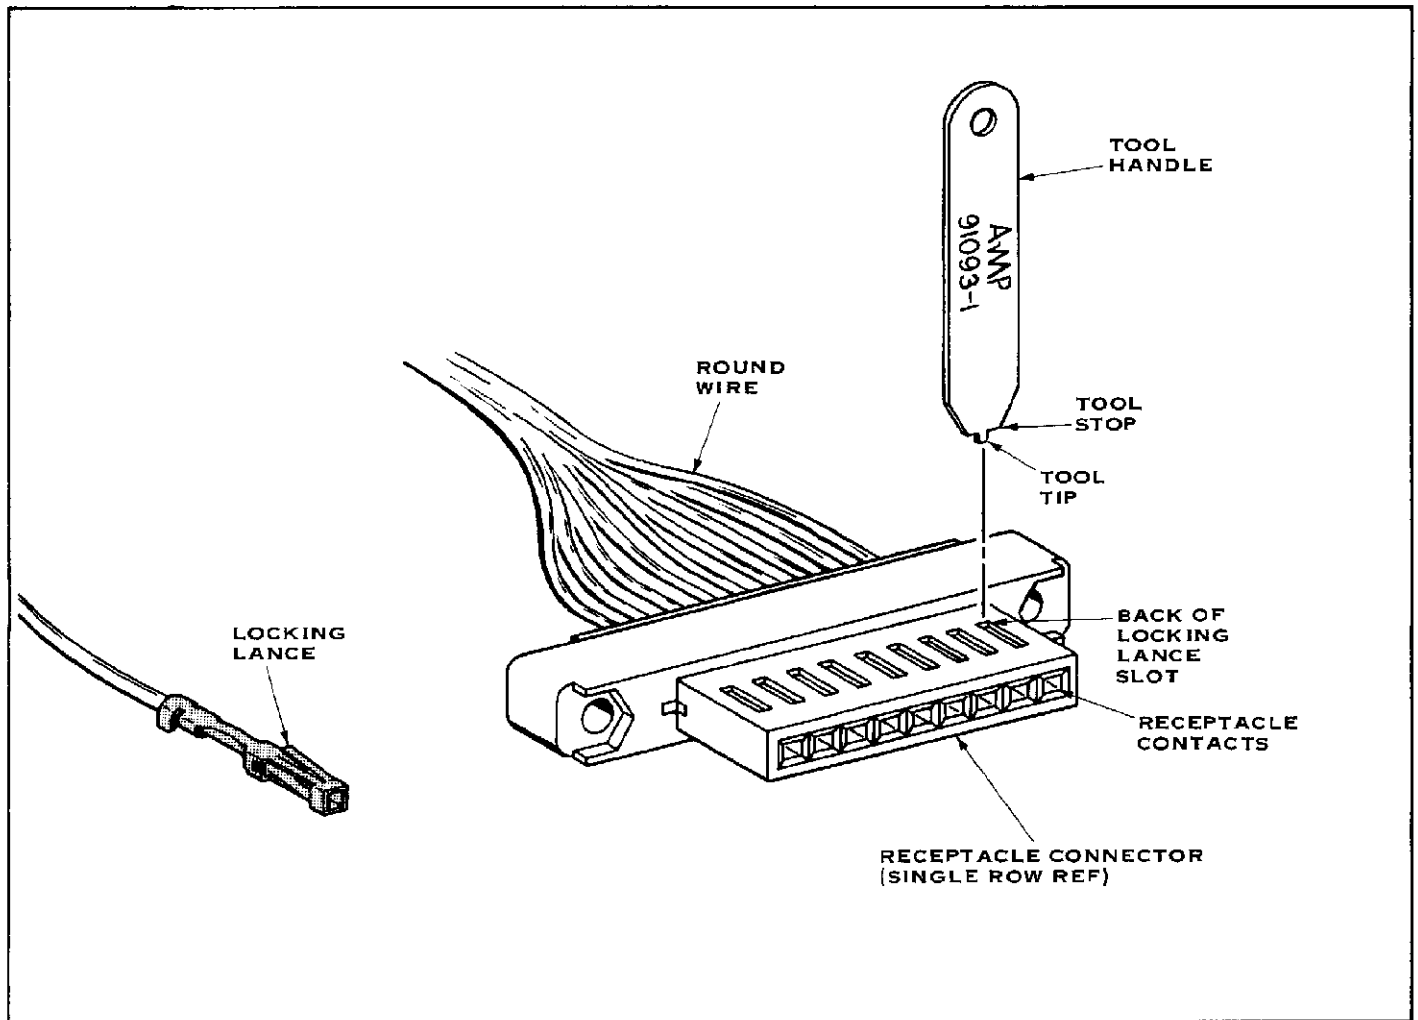

FIGURE 1
The tool tip is designed to enter the locking lance slot and depress the contact locking lance. The tool stop is designed to prevent contact damage from over-insertion of the tool. The tool handle has the tool number marked on it. See Figure 1.
1. Align the tool tip with the BACK of the applicable locking lance slot, as shown in Figure 1.